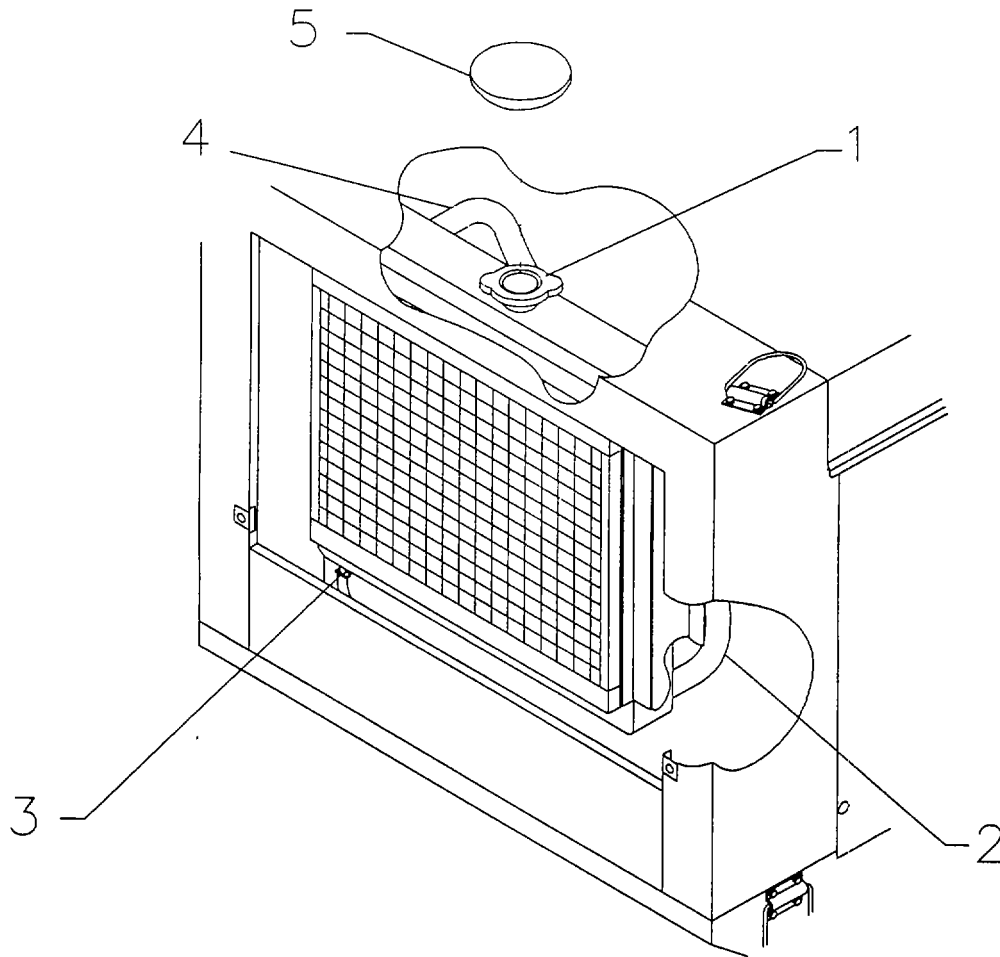
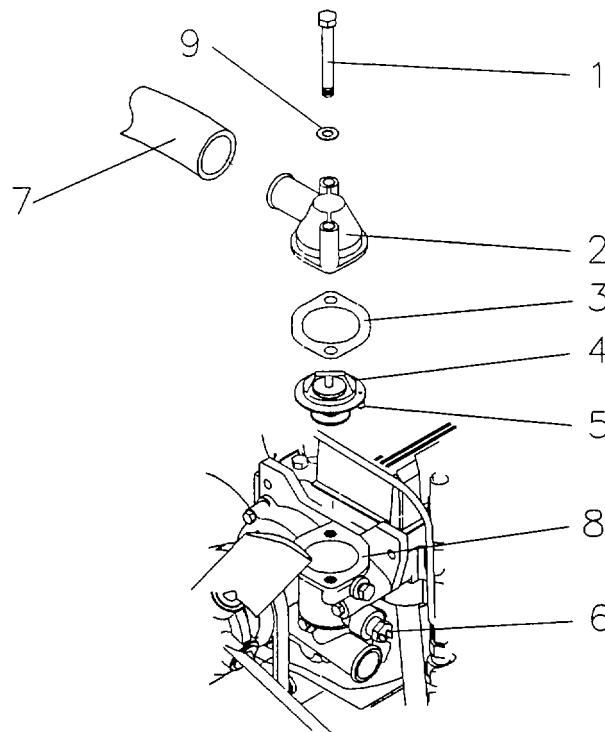

Figure 4-10. Engine Radiator.
Figure 4-13. Thermostat.
a. Draining the engine radiator. Refer to figure 4-10.
- 1) Slide a suitable waste container under the hydraulic power supply at the drain valve (3).
- 2) Remove rain cap (5). Remove the radiator fill cap (1). Turn the drain valve (3) counterclockwise to drain the coolant/antifreeze. Close the drain valve (3) after draining by turning in valve clockwise.
b. Flushing the engine radiator. Refer to figure 4-13.
- 1) Remove screws (1) and washers (9).
- 2) Remove thermostat housing cover (2). Leave hose (7) connected to thermostat housing cover (2).
- 3) Remove thermostat housing gasket (3) and thermostat (4). Discard gasket.
- 4) Flush the engine through the thermostat housing (8) until clean water emerges from the housing cover (2).
- 5) Install thermostat (5), thermostat housing gasket (3) and thermostat housing cover (2). Install screws (1) and washers (9). Torque to 15.5 ft lb/21 Nm.
c. Filling the radiator. Refer to figure 4-10.
1) Refilling the radiator. A 40% solution of coolant/antifreeze must be used under all operating conditions. Use coolant/antifreeze (item 1, Appendix E). The capacity of the engine and radiator is 2 gallons/7.57 liters. A 40% solution may be made using 3.2 quarts/3.03 liters of coolant/antifreeze and adding water to make 2 gallons/7.57 liters.
2) Replace the radiator fill cap (1) and rain cap (5).
a. Removal. Refer to figure 4-13.
1) Remove the two cover retaining bolts (1), washers (9), cover (2), thermostat housing gasket (3) and thermostat (4). Discard thermostat housing gasket.
b. Installation. Refer to figure 4-13.
1) Replace the thermostat (4) into the housing (8) taking care to ensure the jiggle pin (5) moves freely and is located towards the radiator.
2) Replace the thermostat housing gasket (3), cover (2), cover retaining bolts (1), and washers (9).